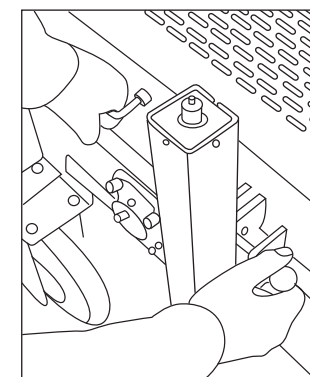
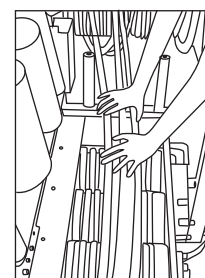
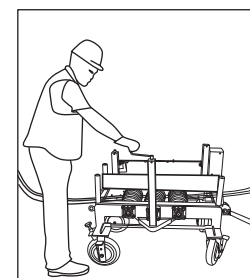

Fig. 2
Fig. 3
Fig. 4
4. Pull Tension lid locking pin (17) to lift lid upward until locked into place (Fig 2).
5. Lay cable onto bottom rollers, this includes ground wire, in-between Cable Guides (15).
6. Spread cable out evenly onto rollers (Fig 3).
7. Shut Tension Lid by lifting the Lid Safety Latch then lowering lid (6).
8. Push Tension Lid down onto cable and latch Tension Lid Locking Pin (19).
9. Tension may need to be decreased for the lid to lock properly. Decrease lid tension by winding the Tension Handle (5) in a counter-clockwise rotation. This will lift the lid off the cable, pull the Tension lid locking pin and engage lock.
10. Add tension to the cable by rotating the Tension Handle (5) in a clockwise rotation at one of the three Tension Post (Fig 4).
13. Adjust speed with the Speed Control Dial on control panel (7).
14. To STOP, press the red stop button on control panel (7).